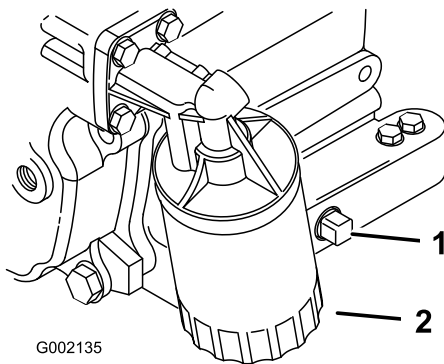

Figure 35
5. Remove the drain plug (Figure 35) and let the oil flow into a drain pan. When the oil stops, install the drain plug.
2. Remove the existing oil filter (Figure 35).